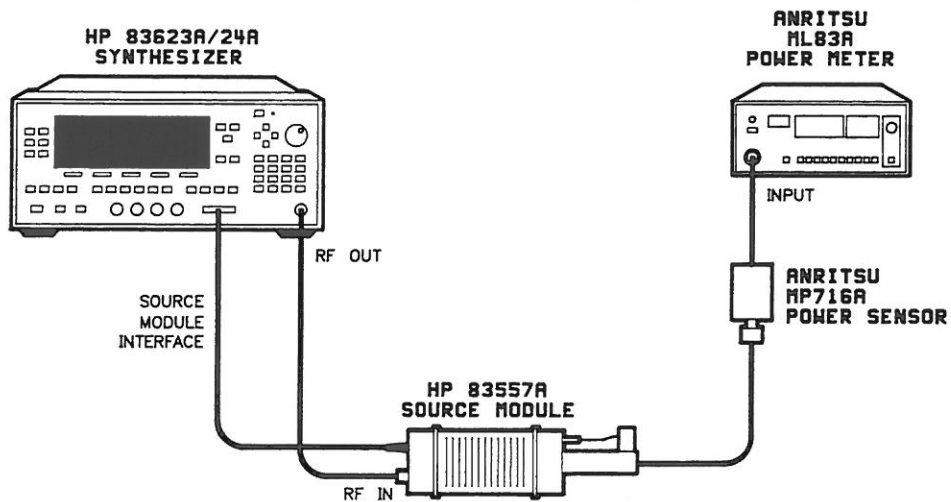

Figure 2e-4. System Configuration
1. Connect the equipment as shown in Figure 2e-4. Do not connect the power sensor to the HP 83557A output.